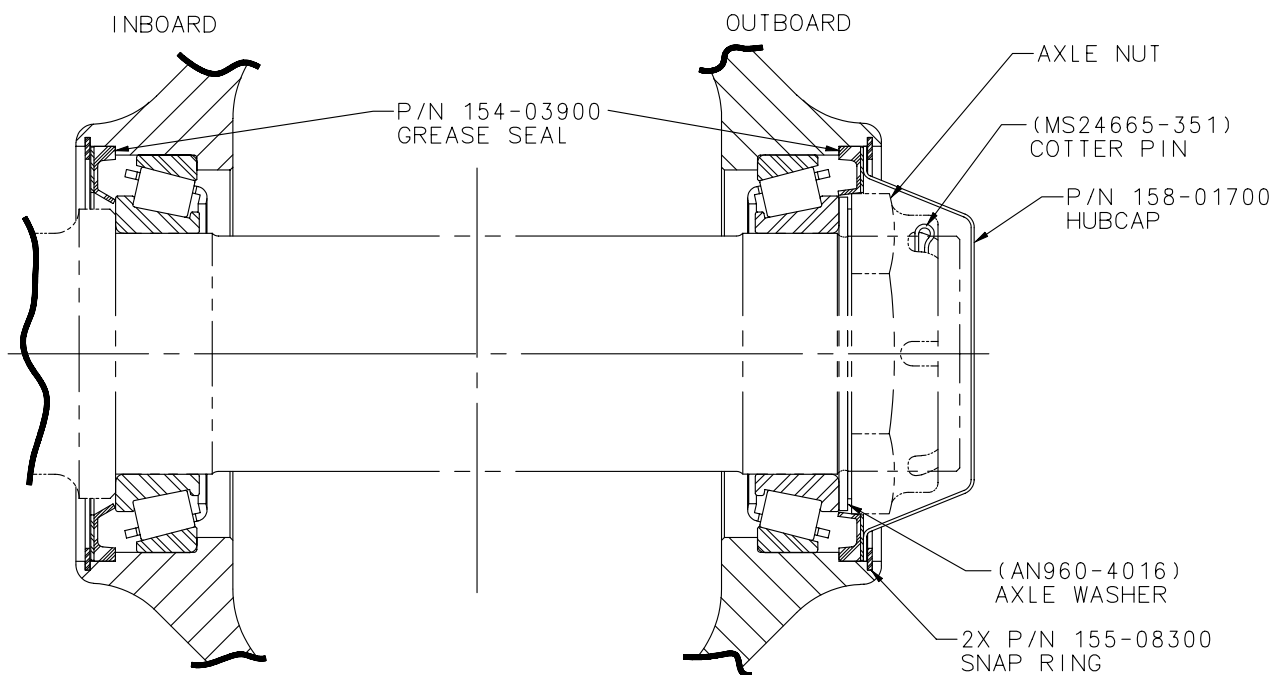
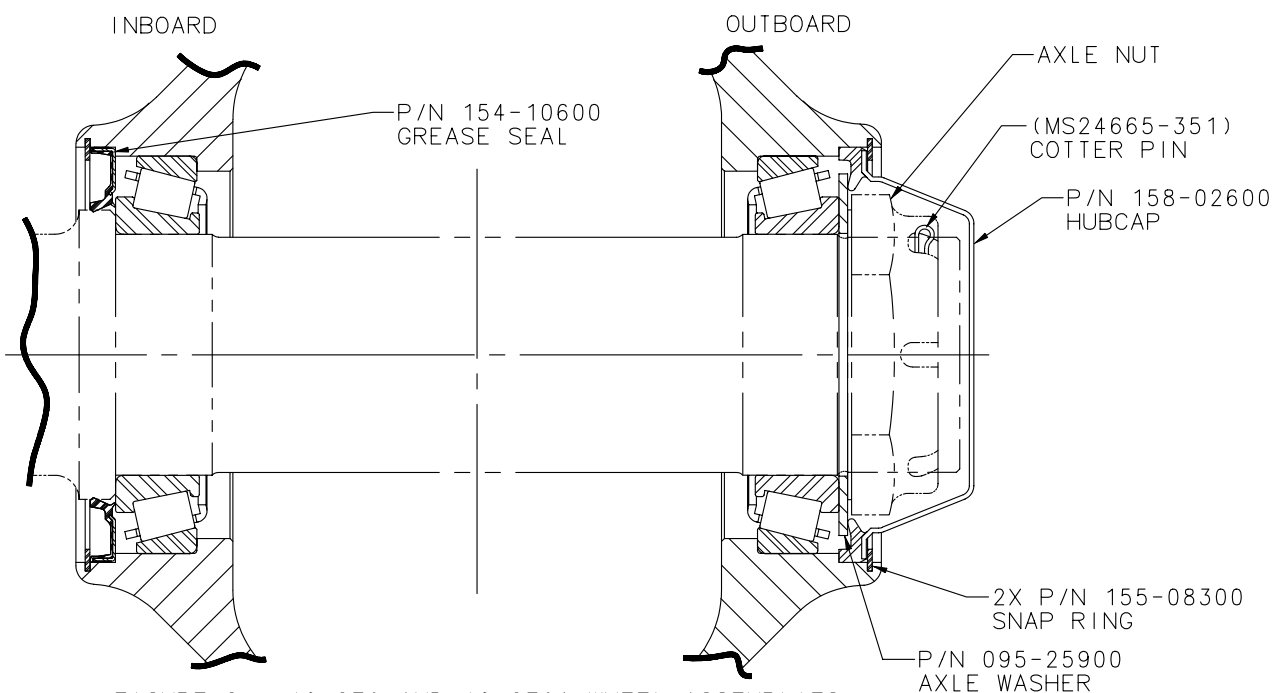

FIGURE 1 - 40-279 AND 40-279A WHEEL ASSEMBLIES
FIGURE 2 - 40-279 AND 40-279A WHEEL ASSEMBLIES
**REASON:** Product Improvement - Parker has completed the design and testing of a new hubcap, P/N 158-02600 that incorporates an integral molded seal that offers improved and redundant sealing characteristics over that of P/N 158-01700. In addition, a new seal P/N 154-10600 is also available for the inboard wheel half that offers improved sealing characteristics from external contamination. (Refer to Figures 1 and 2 of this bulletin).
(Refer to Figure 1 and Figure 2 of this bulletin for assembly and installation instructions)